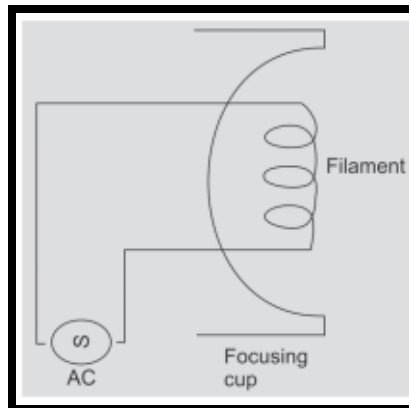

Figure 2: Cathode assembly
- (b) an auxiliary electrode surrounding it (see figure 2).
But because the filament gives off electrons in all directions, some means must be used to focus them on a target. A reflector or focusing cup within the cathode structure (figure 2), into which the filament is centered, serves to focus the electron beam.